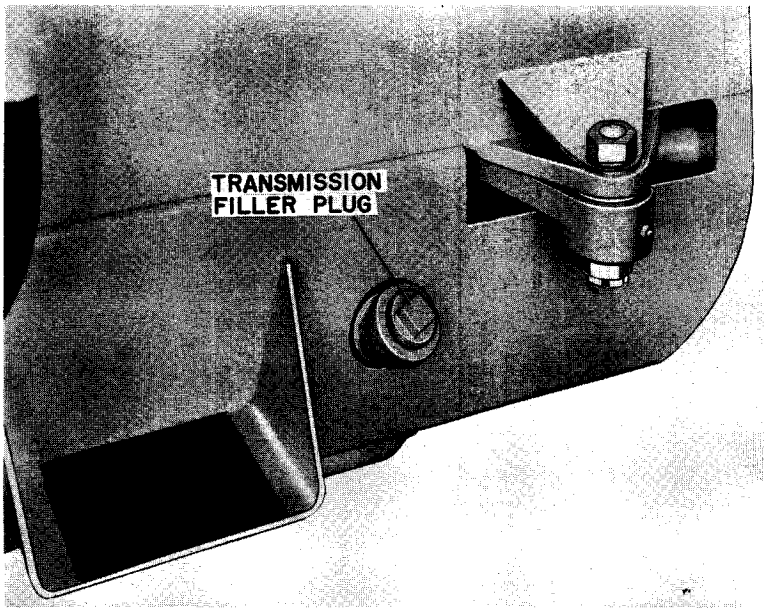

Figure 15
6. Pour 4 to 5 gallons of Type C Transmission Fluid through the Transmission filler opening, Figure 15.
8. After the engine has been running at idling speed for a few minutes, add enough Type C Transmission Fluid to bring the oil up to the level plug opening, Figure 15.